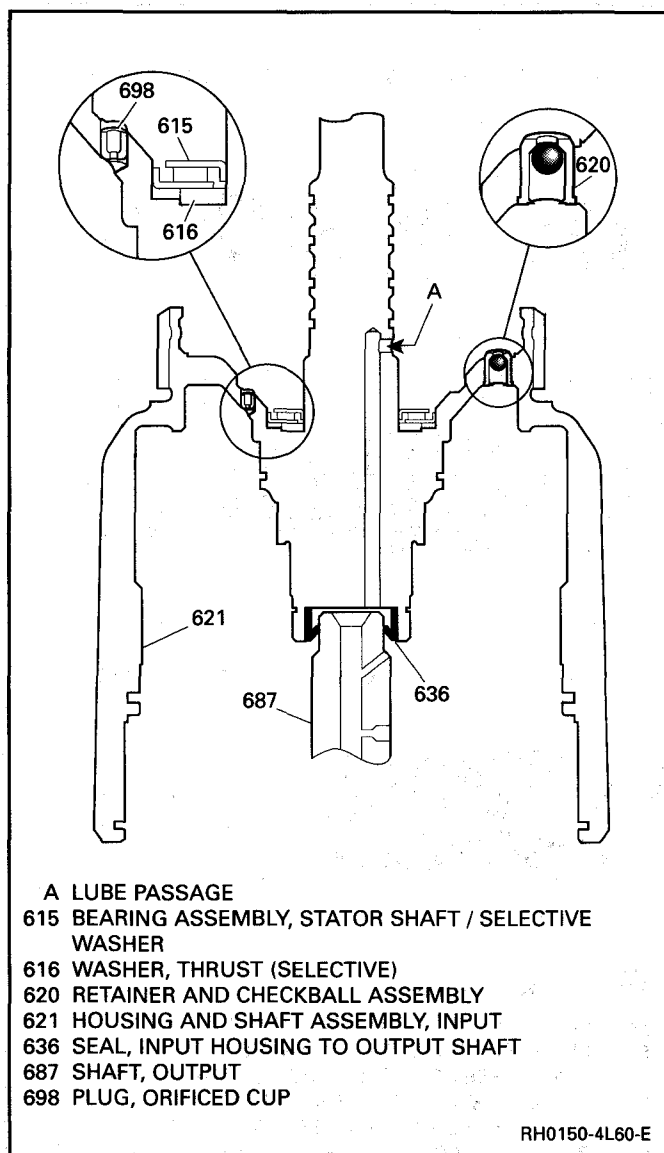

Figure 54 Input Housing Check Valve Ball
Figures 54 and 56
- If the 3-4 clutch plates are burned or worn and a cause is not found during diagnosis or disassembly, replacement of the retainer and checkball assembly may be required (Figure 54).